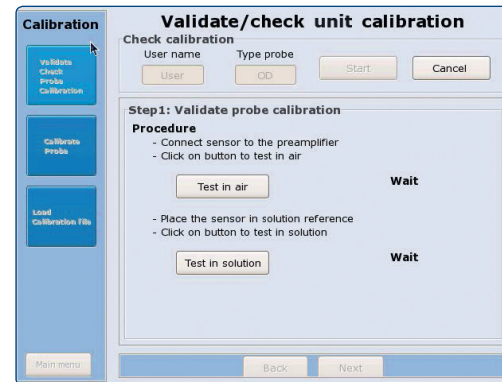

Figure 2: Testing the Pre-amplifier calibration.
- Make sure that the light path is clean, dust-free and placed in the dark. Press Measure in air to start the Calibration procedure (Figure 2).